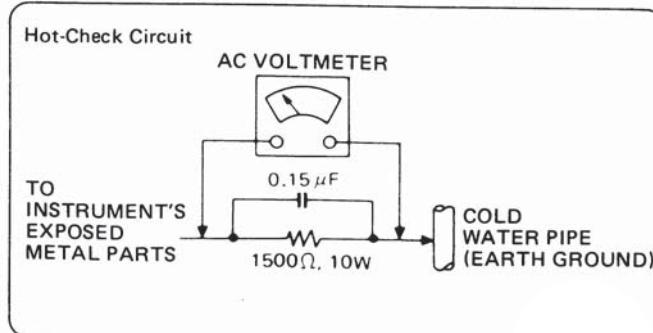

Figure 1
LEAKAGE CURRENT HOT CHECK (See figure 1.)
2. Connect a $1.5\text{ k}\Omega$, 10 watts resistor, in parallel with a $0.15\text{ }\mu\text{F}$ capacitor, between each exposed metallic part on the set and a good earth ground such as a water pipe, as shown in figure 1.